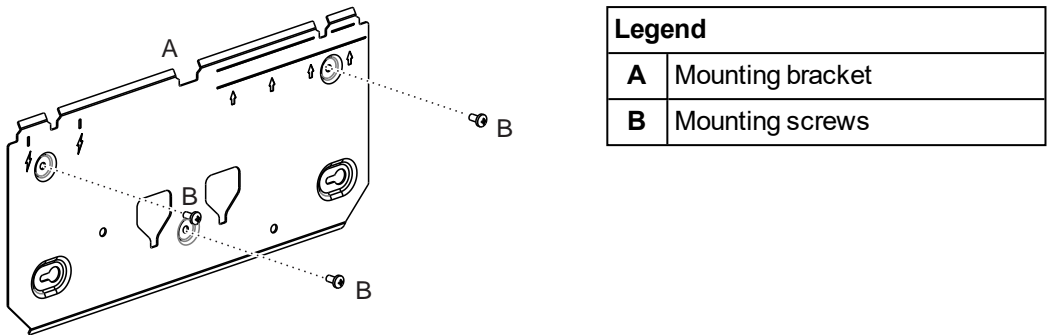

Figure 4-20: Mounting Bracket
5. Insert the remaining three mounting screws (B) and tighten them (Figure 4-20).